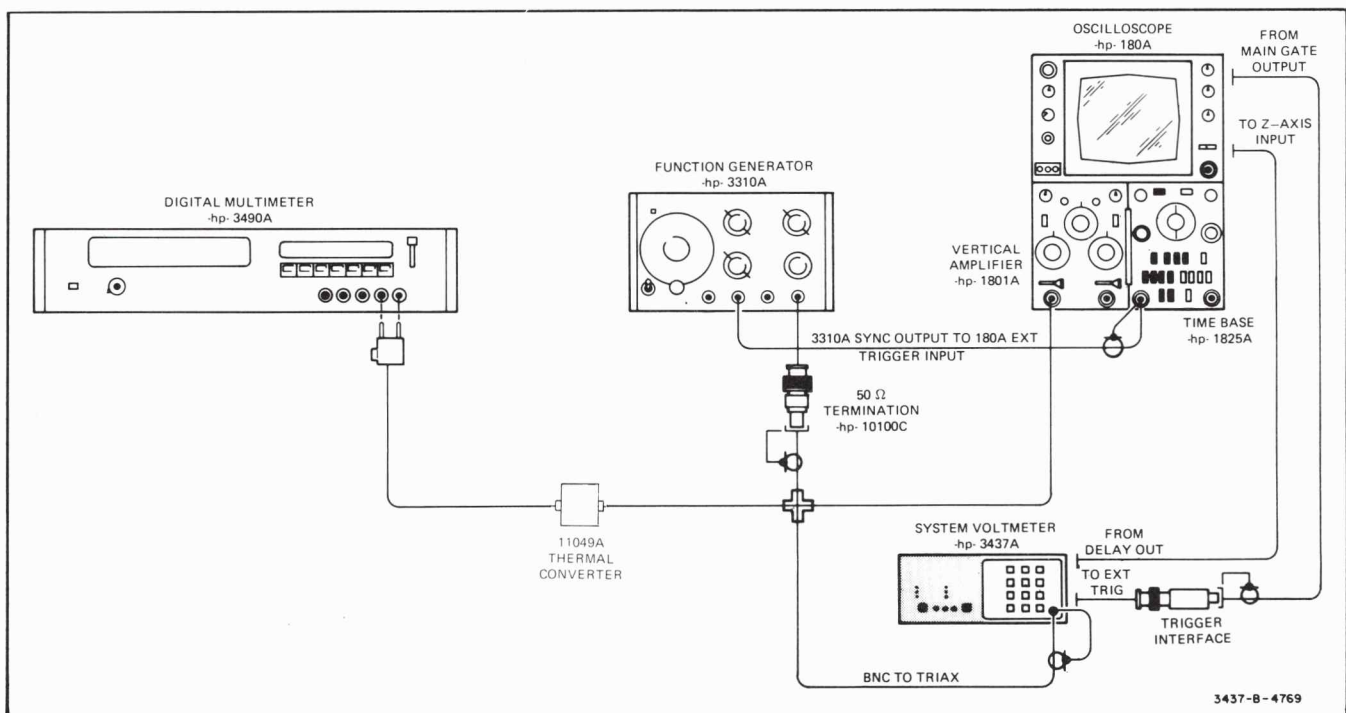

Figure 5-4. Bandwidth Test Set-Up.
a. Connect the equipment as illustrated in Figure 5-4.